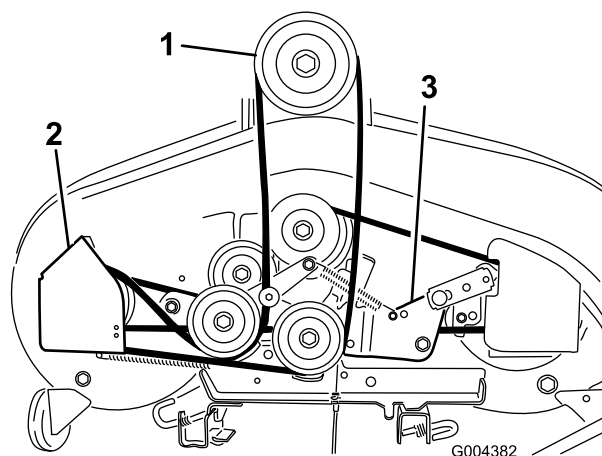

Figure 4
8. Unhook the deck engagement cable spring from the right hand idler bracket on the deck (Figure 4).
Note: Refer to Figure 4 for this procedure.